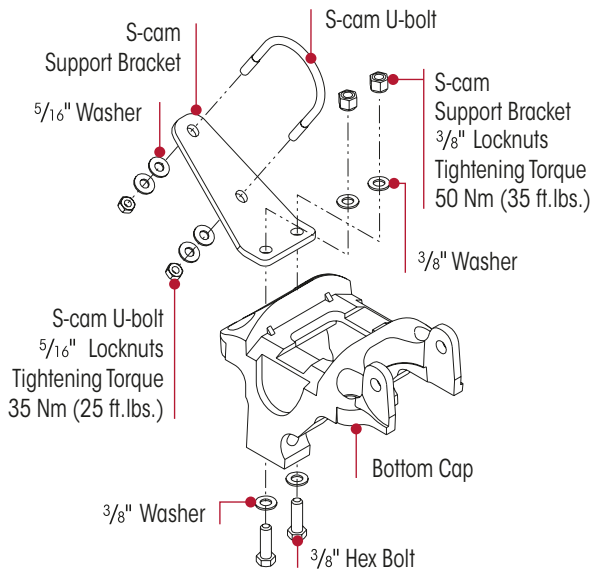

Figure 113: Remove S-Cam Fasteners
14. Remove the S-cam support bracket fasteners and support bracket (if equipped). Refer Figure 113.